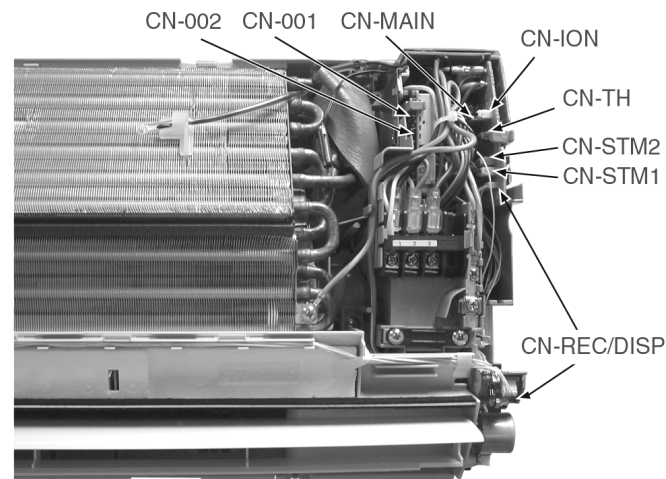

Fig. 4
- Release the CN-REC/DISP connectors. (Fig. 4)
- Release the CN-TH connector. (Fig. 4)
- Release the CN-MAIN connector. (Fig. 4)
- Release the CN-STM1 connector. (Fig. 4)
- Release the CN-STM2 connector. (Fig. 4)
- Release the CN-001 connector. (Fig. 4)
- Release the CN-002 connector. (Fig. 4)